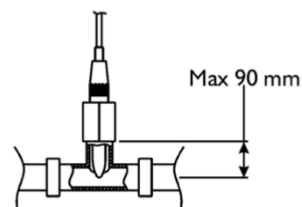

Fig. 4
- b) Saddle for the pH injector (Fig. 4): Before installation, drill a hole in the pipe after the electrolytic cell with size approx. 9 mm. Install a socket with connection 3/8" female GAS thread connection in the saddle. The injection valve will be connected to the socket.